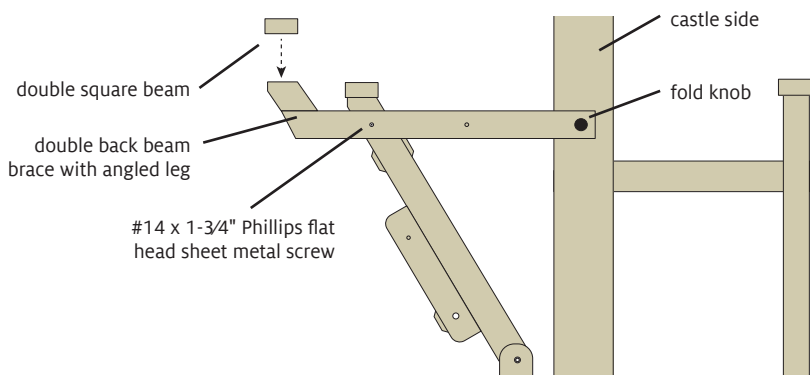

FIGURE 3: INSTALL DOUBLE BACK BEAM BRACES AND DOUBLE SQUARE BEAM
6. Remove the original back beam braces by detaching the fold knobs and the nylon washers, then removing the screws connecting them to the rear legs. Orient the double back beam braces with the angled legs on the inner side and pointing upward (Figure 3). Using a #14 x 1-3/4" Phillips flat head sheet metal screw, attach each brace to the rear leg. Remove the nylon washers from the old fold knobs and install them on the new fold knobs. Insert the new knobs through the braces and screw them into the castle sides.
7. Place the double square beam on the angled legs (Figure 3).